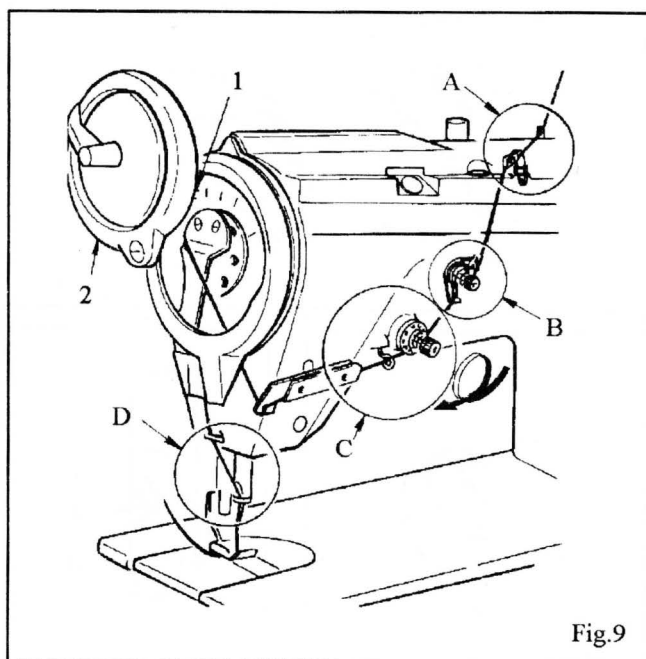

Fig. 9
Do not operate machine with the cover (2) (See Fig. 9) left open.
**CAUTION:** Be careful not to injure your fingers with the thread cutter (1), Fig. 9, on the face plate when threading the rotary take-up.